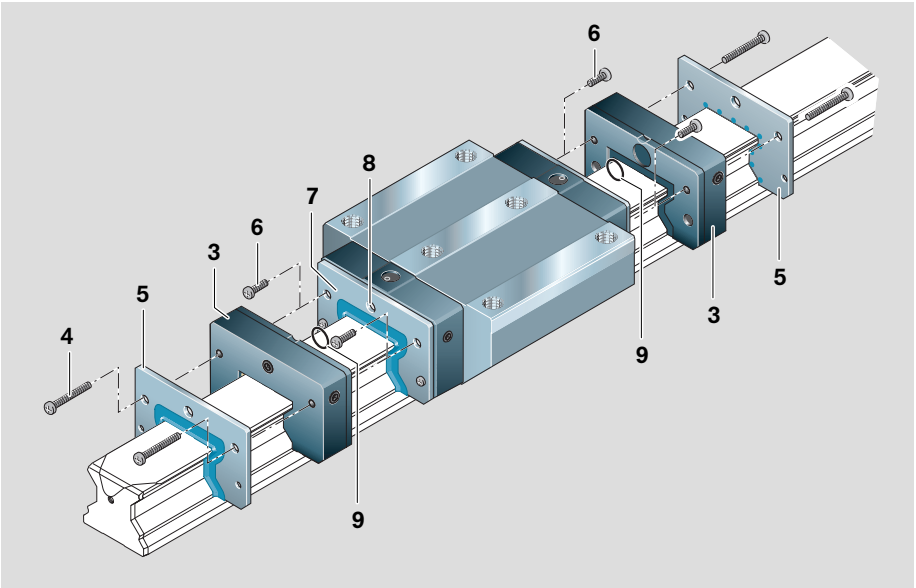

Fig. 3
⚠ Mount one front lube unit at each end of the runner block (Fig. 3, item 3)!
- Remove screws (Fig. 3, item 6) – in size 65, there are four screws. Discard these screws (6)!
- If there are any end seals (7) already mounted on the runner block, leave them in place.
- Slide on the front lube units (3) and the additional end seals (5) and align them with the runner block.
- For size 25, remove the set screw (8) and insert the O-ring (9) between the runner block and the front lube units.